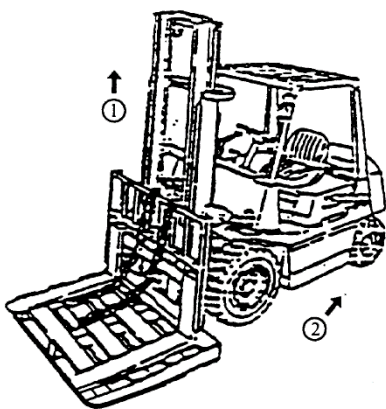

Fig.8-7
- (4) Lift the inner mast (① in Fig. 8-7)
- (5) Back up the forklift after confirming that the fork frame has been separated from the outer mast. (② in Fig. 8-7)
- (6) Replace the main roller